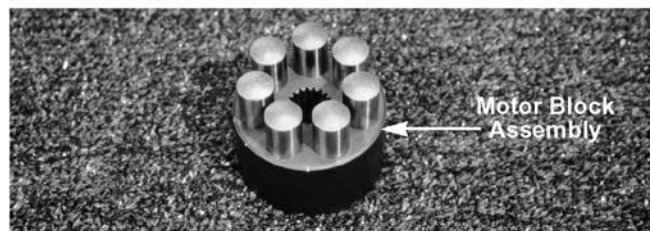

Figure 6-141
19. Inspect the motor block assembly. See Figure 6-141.